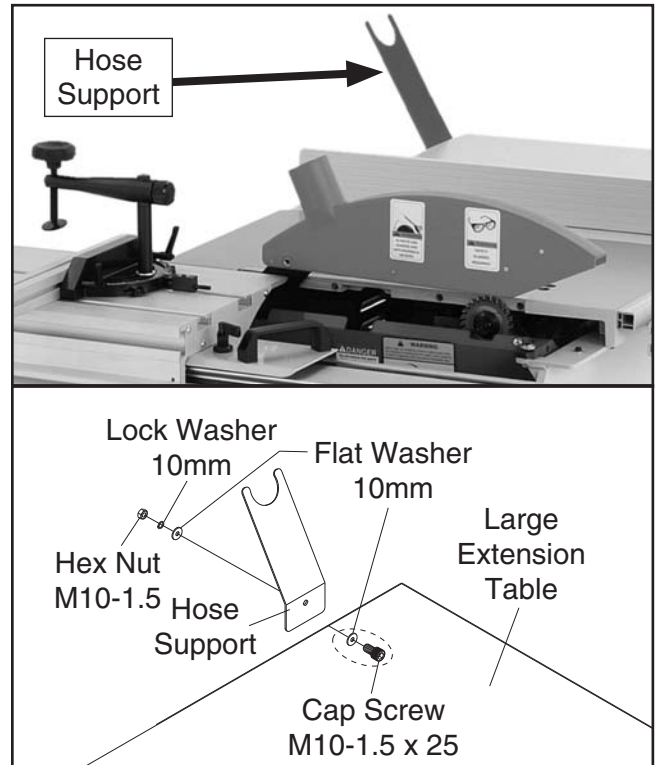

Figure 27. Hose support installed.
28. Install the hose support as shown in Figure 27.